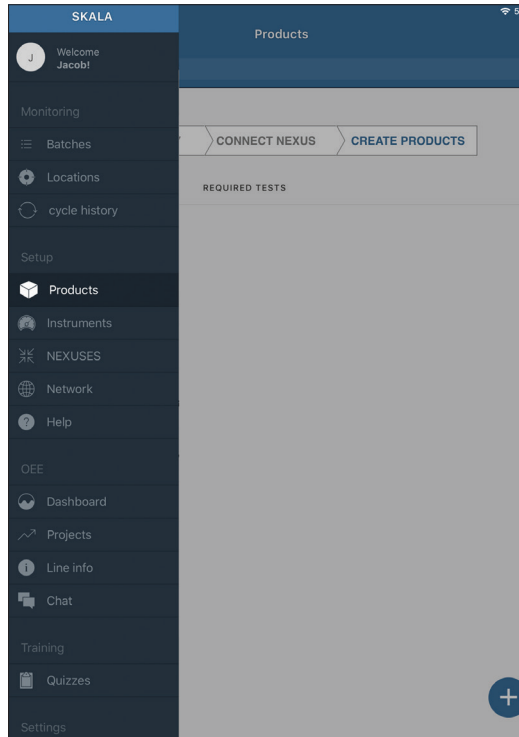

Figure 20 Plus symbol in blue circle
2. Select the plus symbol on the Products screen to add a product (Figure 20).